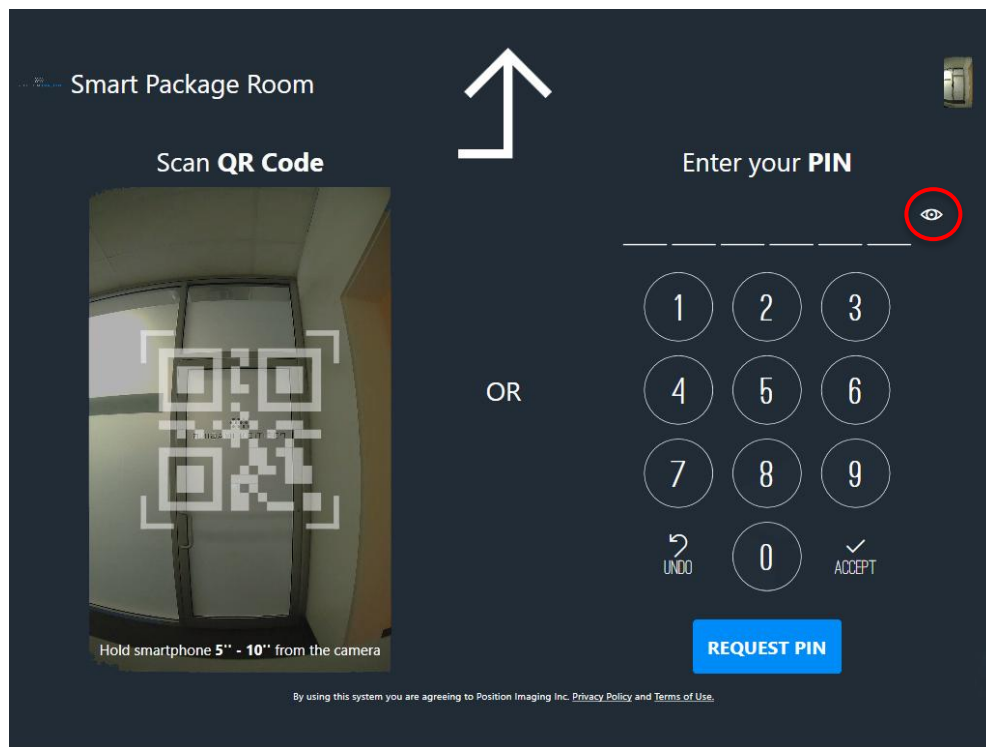

Figure 9: Enter your Access PIN
2. **Enter** your assigned Courier or Staff **PIN** (see Figure 9) or **scan** your **Key Card/Key Fob** (see Figure 10). Tap the **Eye icon** to show/hide your PIN.